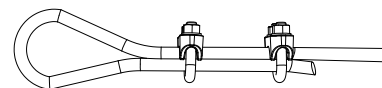

Figure 17: Wire cable secured around the neck of the valve.
2. Loop wire cable around bracket or neck of valve. See **Figure 17** and **Figure 18**.
5. Pass the wire cable through the hole in the chainwheel guide. See **Figure 17**.